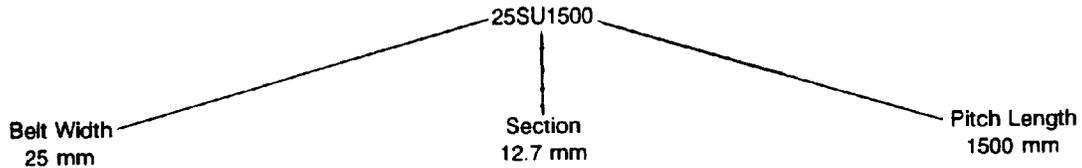

FIGURE 5—BELT DESIGNATION
5.3 Designation—Belt sizes shall be identified by standard belt numbers. The first digits in the number indicate the belt width in millimeters. The letters indicate the belt section (pitch) designation, and the numbers following the letters indicate the pitch length in millimeters. For example, the number 25SU1500 indicates a belt 25 mm wide, SU section (pitch) of 12.7 mm, and a pitch length of 1500 mm. (See Figure 5.)